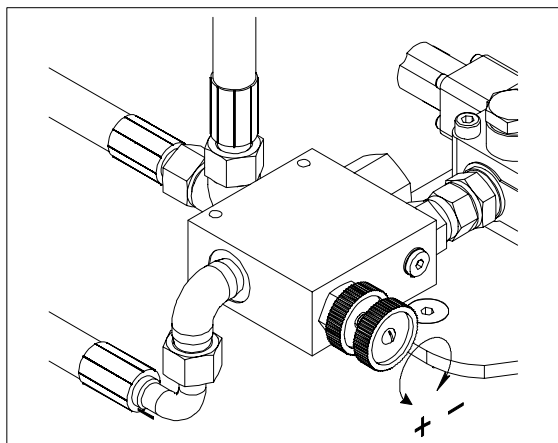

Fig 8. Feeder reel speed settings.
- Using the flow control valve, set the revolution speed of the feeder reel to correspond with the cutting speed of the blades. By turning the knob anticlockwise, the revolution speed of the feeder reel grows, correspondingly by turning it clockwise, the revolution speed will diminish. See Fig 8.